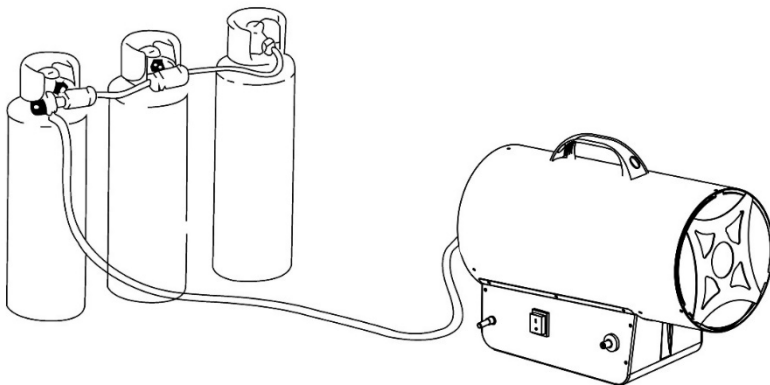

Fig. 1
9. If the appliance is to be operated for a long time at its maximum capacity, ice may form on the gas cylinder. This is due to excessive vapor withdrawal. The cylinder should not be heated for any reason. To avoid this effect, or at least to reduce it, use a large gas cylinder or two cylinders connected together (Fig. 1).